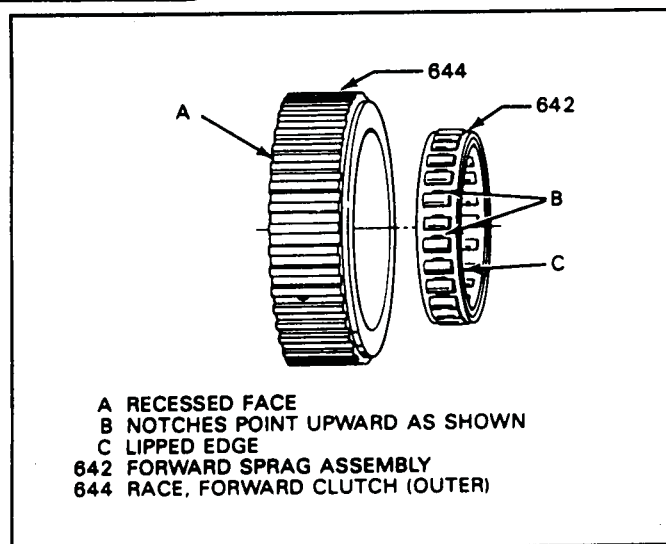

Figure 119
2. Install the forward sprag assembly in the outer race from the side opposite the recess (See Figure 119).
3. The notches in the sprag assembly cage MUST face upward as shown in Figure 119.